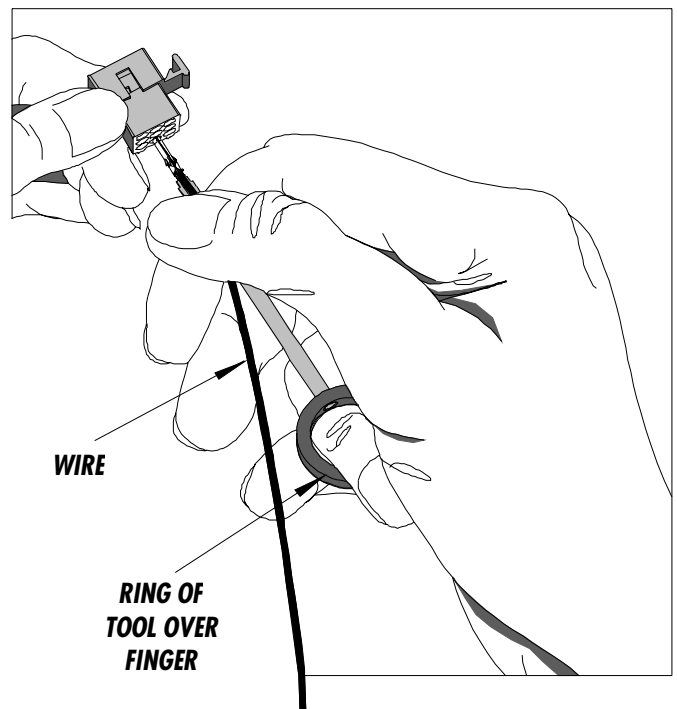
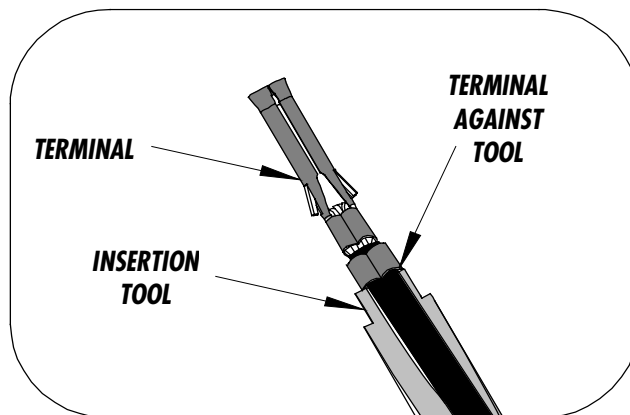

Figure 1
Figure 2
- 1) To properly use this tool, with the flat side facing up, place the ring over the ring finger past the first joint (See Figure 1). Place the wire in the groove of the tool so that the terminal is touching the end of tool (See Figure 2).**